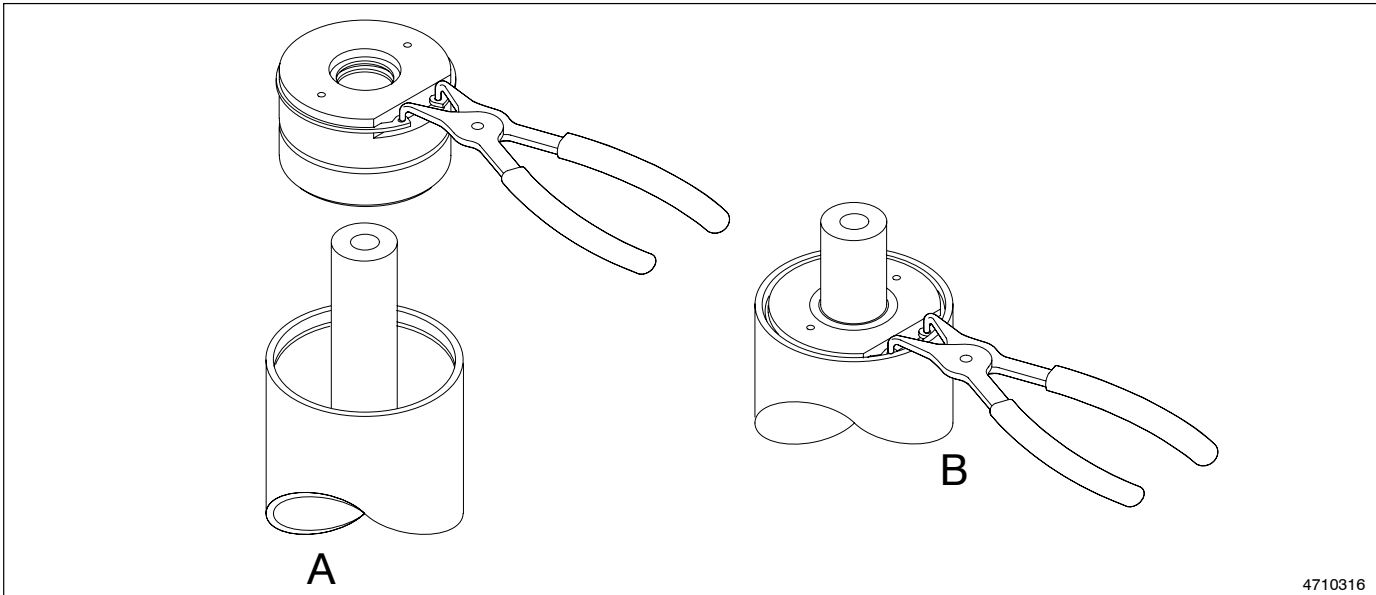

Fig. 7-48 Installing the Cylinder Head Assembly in the Air Cylinder
4. See Figure 7-48. Using the snap-ring pliers, compress the retaining ring and install the cylinder head assembly into the top of the air cylinder.